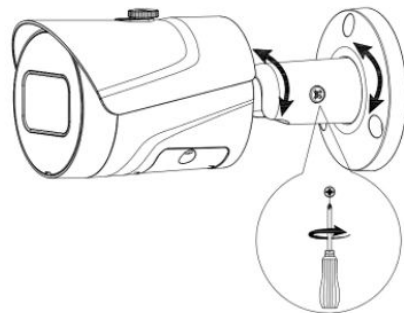

Figure 2-8
- To Adjust Angle, loosen the set screw and rotate the camera. Be careful not to rotate the camera too much as it can compromise the cabling. See Figure 2-8.